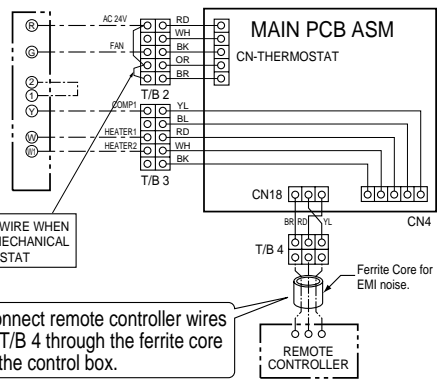

Figure 5B
**■ Cooling only - 1 Comp, 2 Heater(Figure 5B)